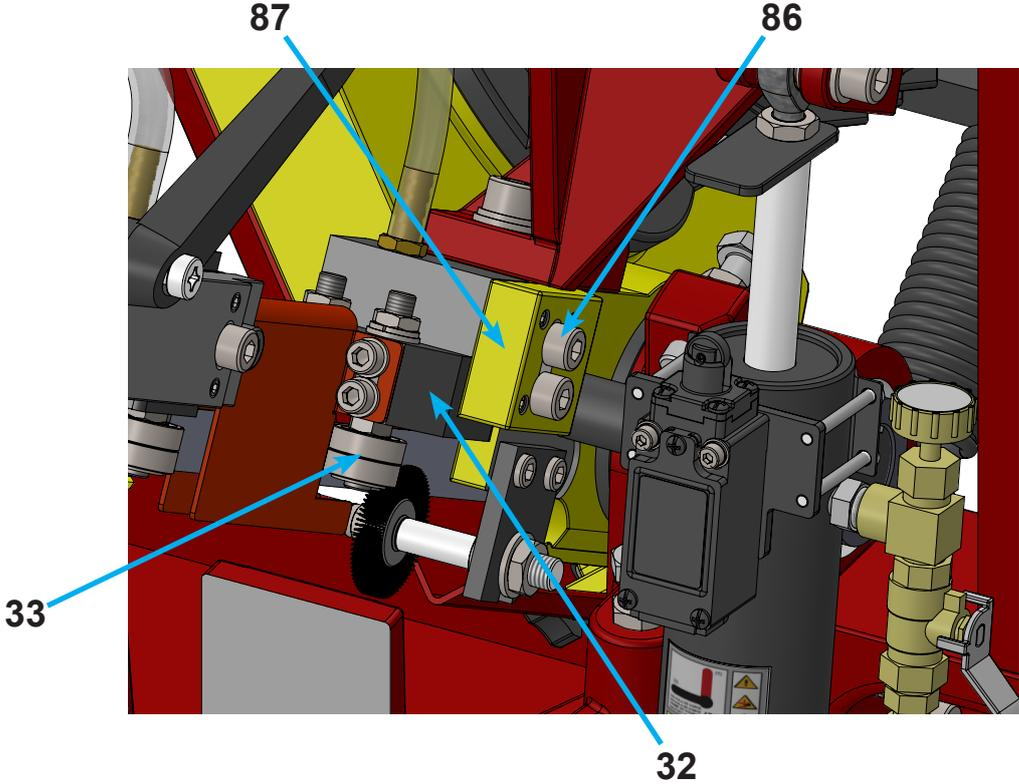

FIGURE 14.5 – BACK BEARING ADJUSTMENT – FIXED GUIDE
1. LOOSEN the Screws (86) on the Guides (31)(32) (figures 14.5 and 14.6).
2. MOVE the Guides (31) or (32) up or down, as installed on the Guide Supports (37) and (87), respectively.